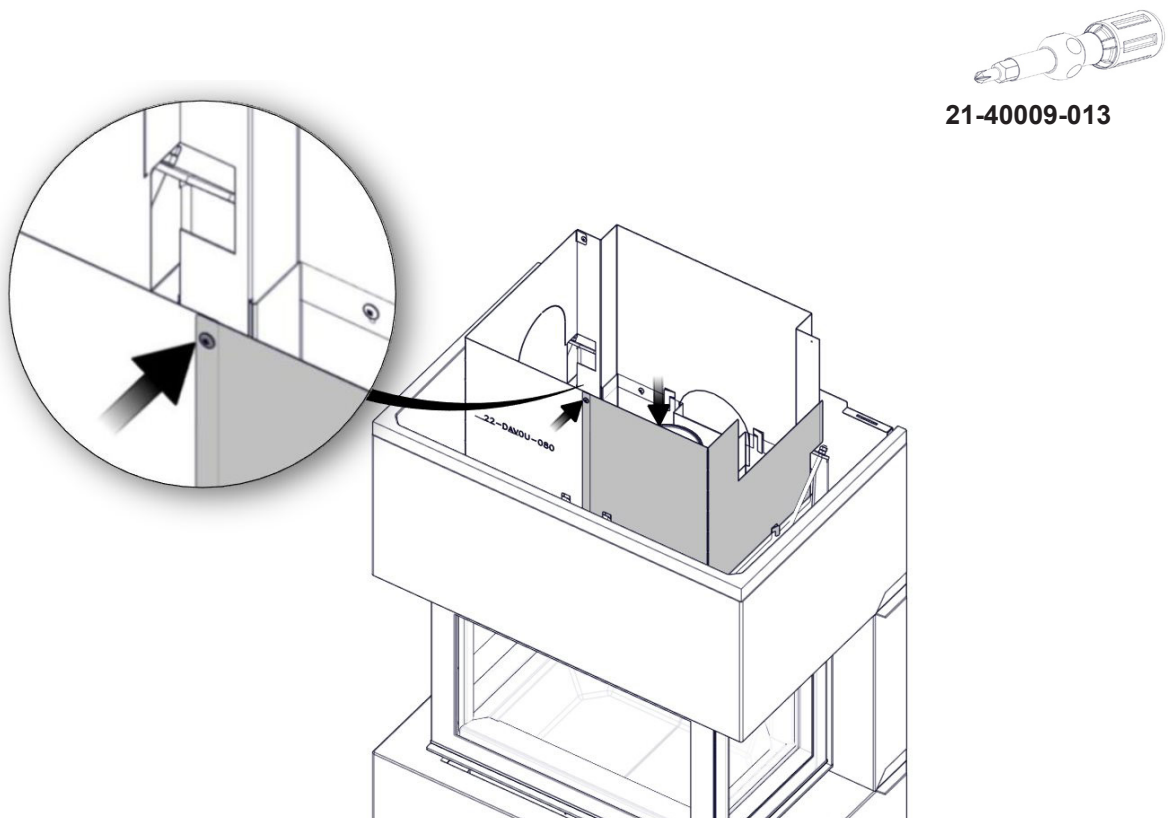

FIG 19 Davos U High\_N-29U
FIG 19 a Davos U High\_N-29U
**FIG 19 b** Davos U High\_N-29U
**FIG 19 c** Davos U High\_N-29U